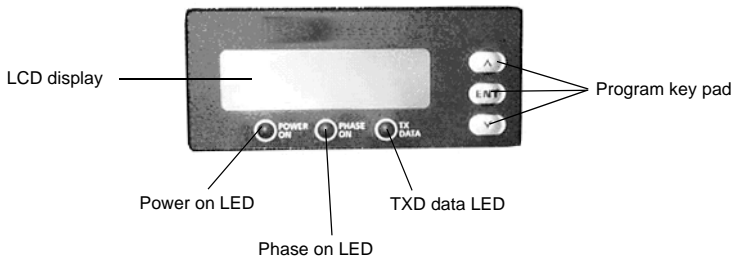

Figure 3.3 Partial view of display and key pad
The VB34 decoder base assembly has an LCD display for system messages and menus of the configuration software. The three keys on the side of the display are used for navigating in the menus of the configuration software (Figure 3.3).
- Power ON (Red) indicates that the reader is switched on (Figure 3.3)
- Phase ON (Yellow) indicates that the presence sensor is activated (Figure 3.3).
- TX Data (Green) indicates that the primary serial interface transmits data without errors (Figure 3.3).